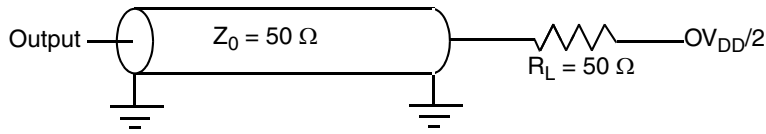

Figure 24. AC Test Load for the JTAG Interface
1. All outputs are measured from the midpoint voltage of the falling/rising edge of  $t_{TCLK}$  to the midpoint of the signal in question. The output timings are measured at the pins. All output timings assume a purely resistive 50-Ω load (see Figure 24). Time-of-flight delays must be added for trace lengths, vias, and connectors in the system.
2. The symbols used for timing specifications herein follow the pattern of  $t_{(first\ two\ letters\ of\ functional\ block)(signal)(state)}$  (reference)(state) for inputs and  $t_{(first\ two\ letters\ of\ functional\ block)(reference)(state)(signal)(state)}$  for outputs. For example,  $t_{JTDVKH}$  symbolizes JTAG device timing (JT) with respect to the time data input signals (D) reaching the valid state (V) relative to the  $t_{JTG}$  clock reference (K) going to the high (H) state or setup time. Also,  $t_{JTDXKH}$  symbolizes JTAG timing (JT) with respect to the time data input signals (D) went invalid (X) relative to the  $t_{JTG}$  clock reference (K) going to the high (H) state. Note that, in general, the clock reference symbol representation is based on three letters representing the clock of a particular functional. For rise and fall times, the latter convention is used with the appropriate letter: R (rise) or F (fall).
Figure 24 provides the AC test load for TDO and the boundary-scan outputs of the MPC8540.